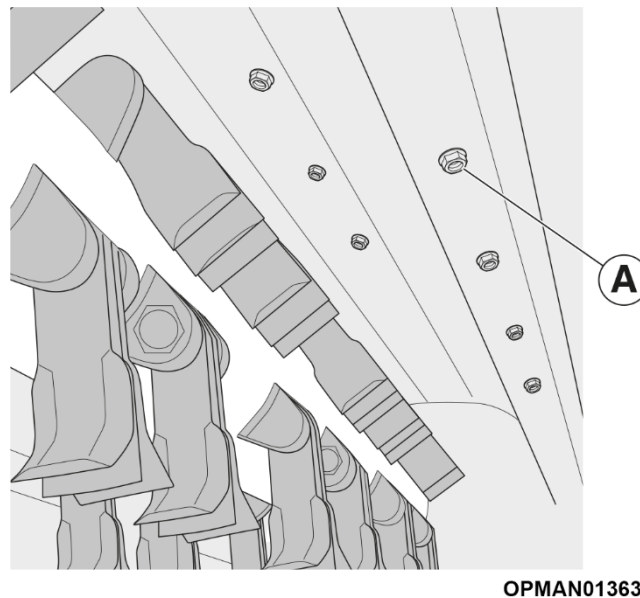

Figure 16
For correct operation, the counter-blades of the Mower must be at a minimum distance of 5 mm from the flails. Adjustment must be carried out by loosening all fasteners (A) that secure the counter-blades (Figure 16). This operation should also be performed when the flails become worn following several hours of operation and the distance is no longer correct.